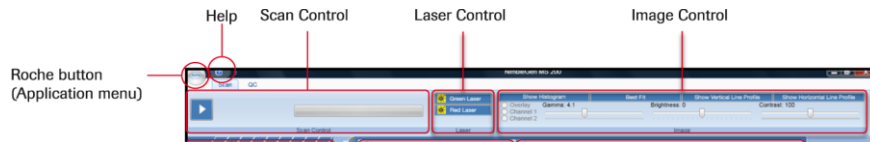

Figure 12: Top of Data Collection Workspace, showing Scan Control, Laser Control, and Image Control
2. Turn on the lasers by clicking the **Green Laser** and **Red Laser** buttons in the Laser Control (Figure 12).